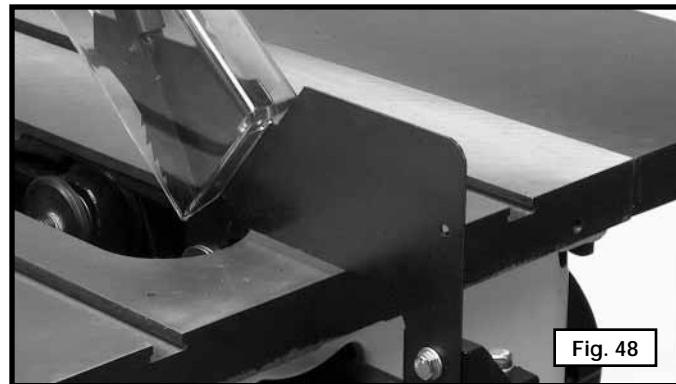

Fig. 48
**WARNING** The blade guard assembly provided with Delta saws (Fig. 48) must be used for all through-sawing operations.
1. Before starting the cut, raise the blade so that it is about 1/8" (3.2mm) higher than the top of the workpiece. Start the motor and advance the work, holding it down and against the fence. **Never** stand in the line of the saw cut when ripping. When the rip width is 6 inches or wider, hold the work with both hands and push it along the fence and into the saw blade (Fig. 48). Feed force when ripping should always be applied between the saw blade and the fence. Never pull the workpiece from the back of the saw. The work should then be fed through the saw blade with the right hand. Only use the left hand to guide the workpiece against the fence, and remove the left hand from the work about 12 inches in front of the blade. Do not feed the workpiece with the left hand. Continue to feed material with right hand, keeping to the right of the path of the blade. After the cut is complete, use a push stick to feed cut-off piece past the blade.